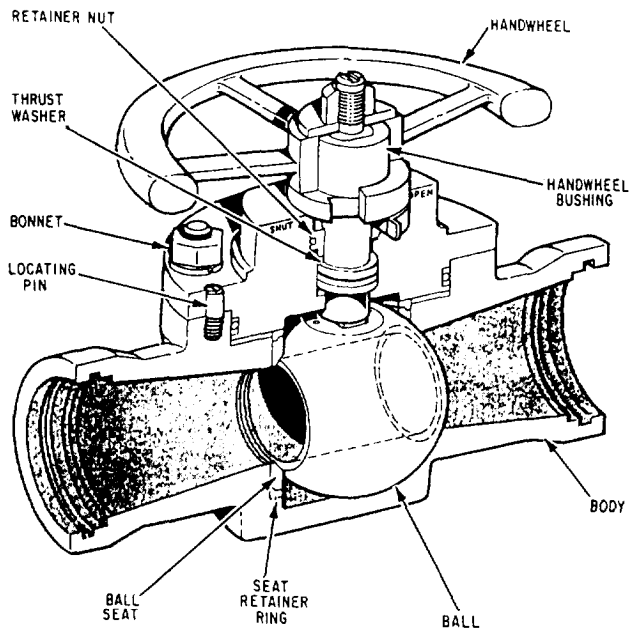

Figure 9-22.—Typical seawater ball valve.
**BALL VALVES.**— Ball valves, as the name implies, are stop valves that use a ball to stop or start the flow of fluid. The ball (fig. 9-22) performs the same function as the disk in the globe valve. When the valve handle is operated to open the valve, the ball rotates to a point where the hole through the ball is in line with the valve body inlet and outlet. When the valve is shut, which requires only a 90-degree rotation of the handwheel for most valves, the ball is rotated so